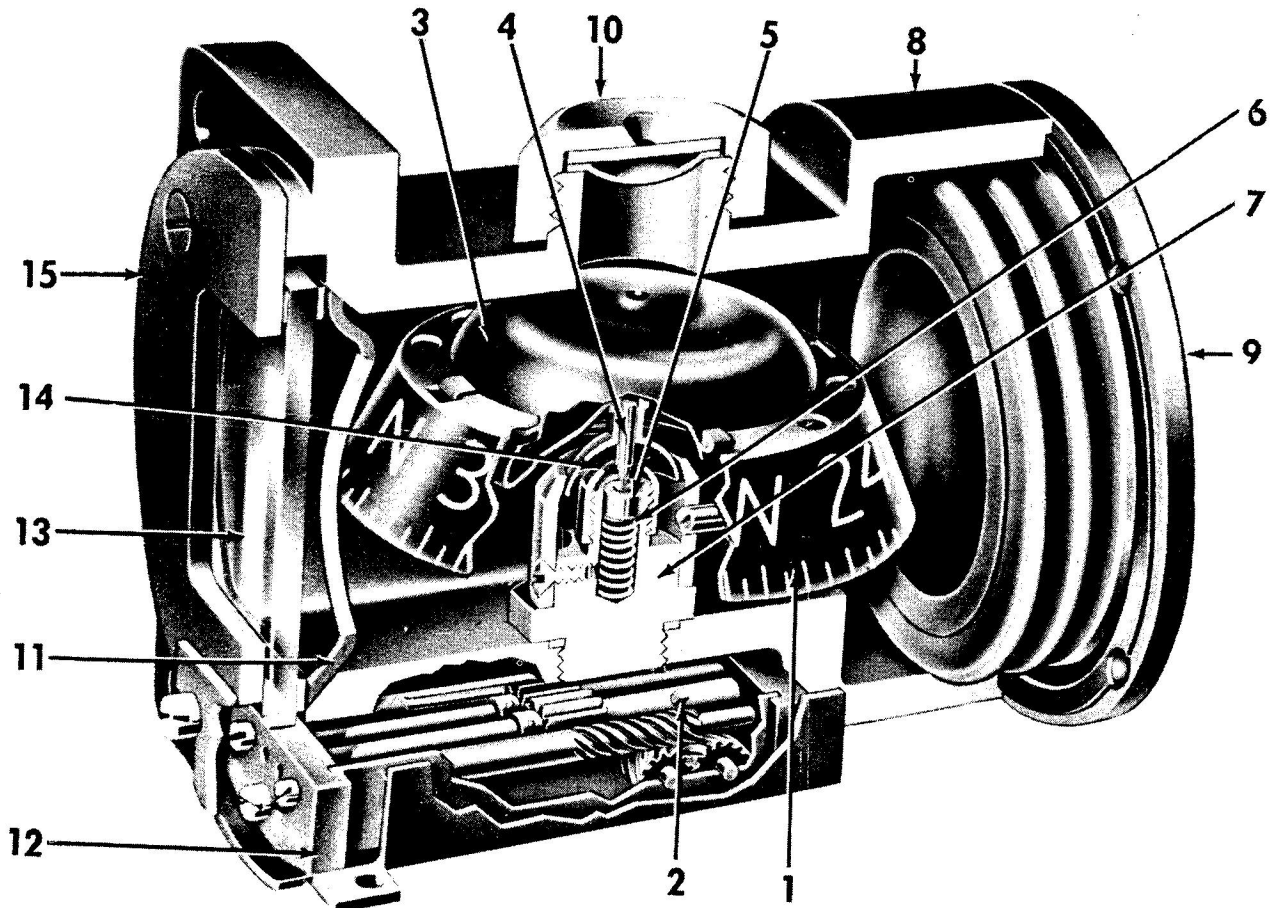

Figure 3 — Cutaway of Typical Pilot's Standby Compass
*a.* **PRINCIPAL UNITS.** (See figure 3.) — From the assembly point of view, the AN 5766-1, 2, 3 or 4 magnetic compass consists of the following principal units: the case (8); the bezel (15); the card element (composed of 1, 2, 3, and 4); the jewel post unit (composed of 5, 6, 7, and 14); the lubber line (11); the lens (13); the expansion unit (9); the liquid; and the compensator (12). With the exception of the lubber line, the various units are held together by screws.
(1) **CASE.** — The case (8) is an aluminum casting filled with damping liquid and contains the card element (1, 2, 3, and 4); the jewel post unit (5, 6, 7, and 14); the lubber line (11) and the expansion unit (9). The case is provided with four mounting ears for panel mounting.
(2) **BEZEL.** — The bezel (15) is an aluminum plate which secures the lens (13) to the case.
(3) **CARD ELEMENT.** — The aluminum dial (1) and magnets (2) are attached to a float (3) which contains a pivot (4). The card is graduated into five-degree divisions to represent horizontal angles. The cardinal headings are indicated by N. E. S. and W.,